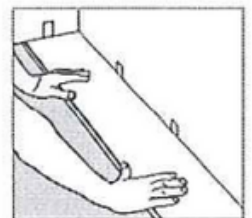

Figure 1
1. Starting from the LEFT with the tongue facing the wall, carefully place the first board in place. Use spacers along the wall allowing required expansion gap (5/16" to 3/8" or 8mm to 10mm). **(Figure 1)**